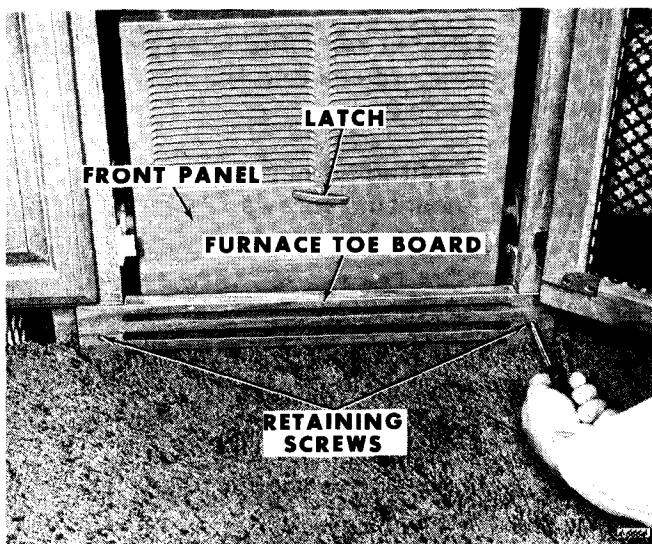

Figure 5—Removal of Furnace Toe Board
2. Remove toe board in front of furnace at floor level (figure 5) by removing two retaining screws, then remove front panel from furnace.
6. Install furnace toe board with two retaining screws (figure 5).